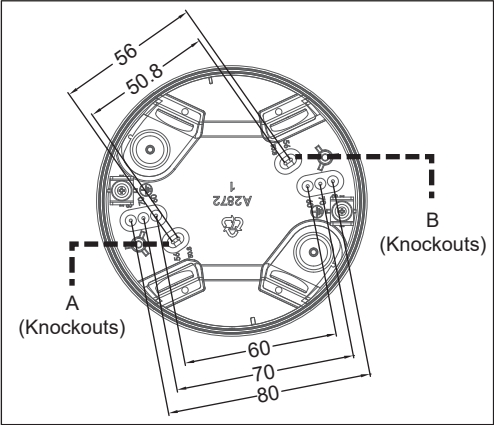

FIG.6
- 1. There are 5pairs of knockouts with various distances from 50.8mm to 80mm on the bottom cover of combined surface mount box for different mounting applications (See FIG.6). Select two same figures on both ends for the corresponding distance for fixing (See FIG.7).